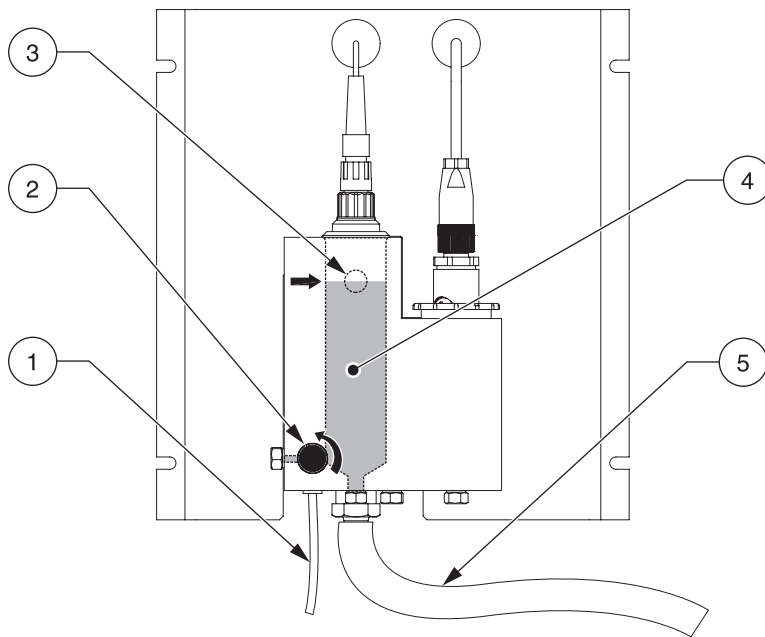

Figure 13 Setting the Flow Rate
3. Slowly open the flow regulator (Figure 13) counterclockwise until consistent flow is achieved at a rate in which the flow cell can be flushed out for about two minutes. Check for leaks at this time. If leaks occur, fix by ensuring all connections are snug but not overtightened.